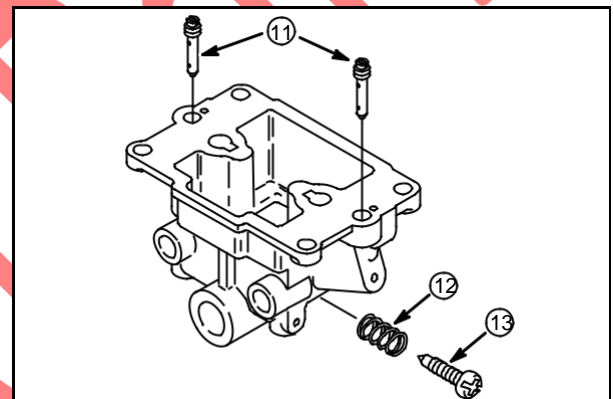

Fig. 63
Remove pilot jets (11), **Fig. 63**.